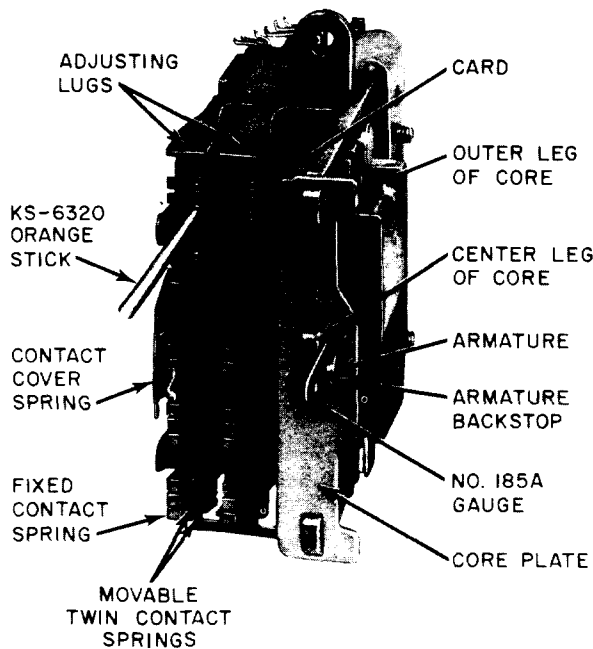

Fig. 5—Method of Checking for Open or Closed Contacts
To check this requirement, first operate the relay electrically. Release the relay and insert the proper 185A gauge into the armature gap. Take care that the gauge is inserted so the shoulders of the gauge rest against the core plate of the relay as shown in Fig. 3. Electrically energize the relay and note whether the contacts are open or closed as required. In case of doubt, remove the cover and apply the KS-6320 orange stick to the tips of the twin contact springs. Attempt to move them toward their mating contact as shown in Fig. 5. Observable movement of either twin contact indicates that the contact is not closed. While making this check on the left-hand row of contacts, hold the contact cover spring clear of the adjacent molded block on the fixed contact springs if it touches this block.
(1) **Card** (Fig. 5)